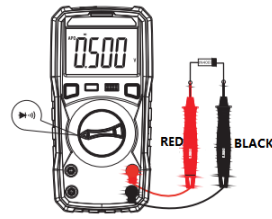

Figure 6
**(6). DIODE AND CONTINUITY TEST (Figure 6)**